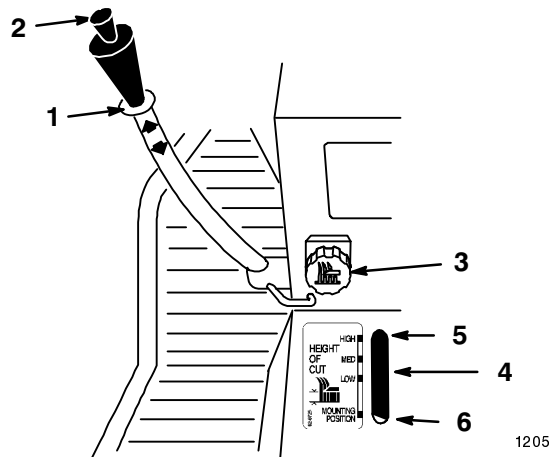

Figure 19
The attachment lift lever (on some models) (Fig. 19) is used to raise and lower attachments.
The Dial-A-Height control (Fig. 19) is used to limit the downward travel of the attachment. The Dial-A-Height knob is rotated to change the location of this stop, up or down.
1. Raise the attachment lift lever: Refer to Raising Attachments. In the raised, position the Dial-A-Height knob (Fig. 19) can be rotated to change the stop location. Turn clockwise to raise and counterclockwise to lower the height of the attachment.
2. The Dial-A-Height indicator (Fig. 19) will show the change, high to low, in attachment lift height as adjustment is made.